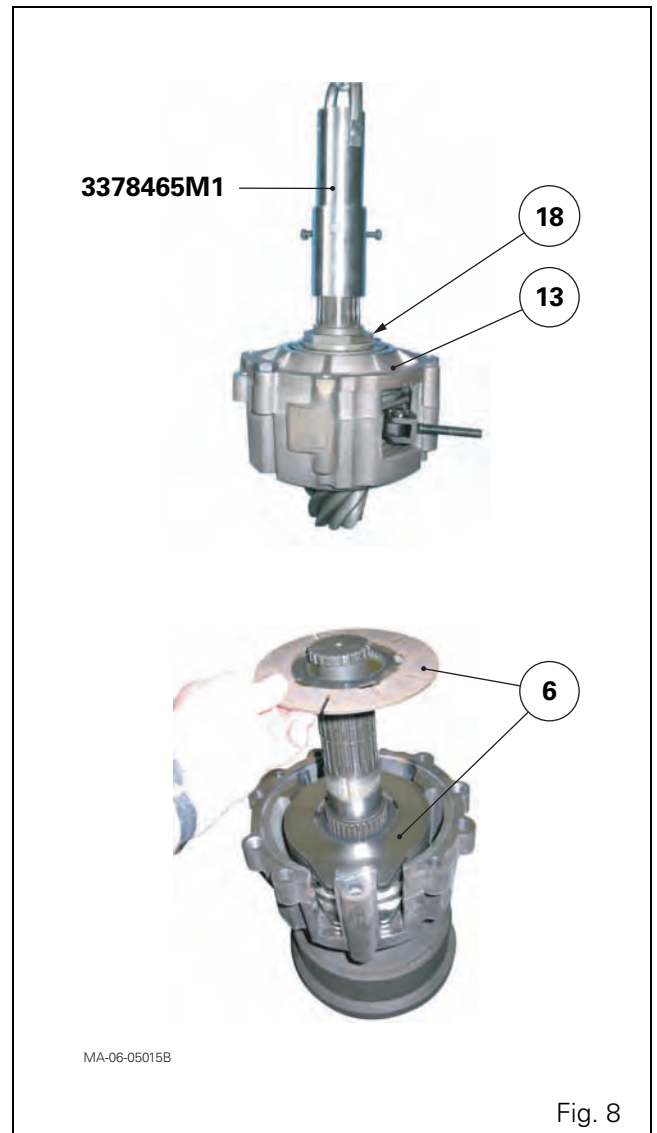

Fig. 8
19. Completely unscrew the nut (18) and discard it (Fig. 8).
- the tapered roller bearing cone (1);
- the shim(s) (3);
- the thrust washer (4), marking its position.
21. Remove the cover plate (13) and the hand brake mechanism (6) (Fig. 8).
22. Remove the pinion, separating it from the hand brake unit (15).
23. If necessary, extract the tapered roller bearing cone (7) from the pinion.